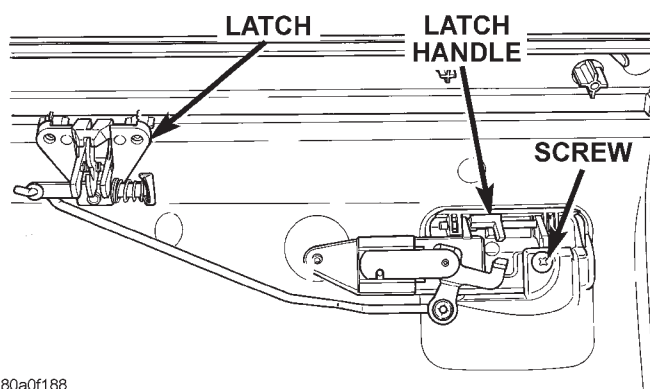

Fig. 20 Glove Box Latch and Handle Remove/Install
- (1) Remove the glove box bin from the glove box door. See Glove Box Bin in this group for the procedures.
- (2) Remove the two bezel screws, two latch screws, and one handle screw from the glove box inner door panel.
- (3) Remove the glove box inner door panel from the glove box outer door panel.
- (4) Remove the screw that secures the glove box latch and handle to the inside of the glove box outer door panel (Fig. 20).